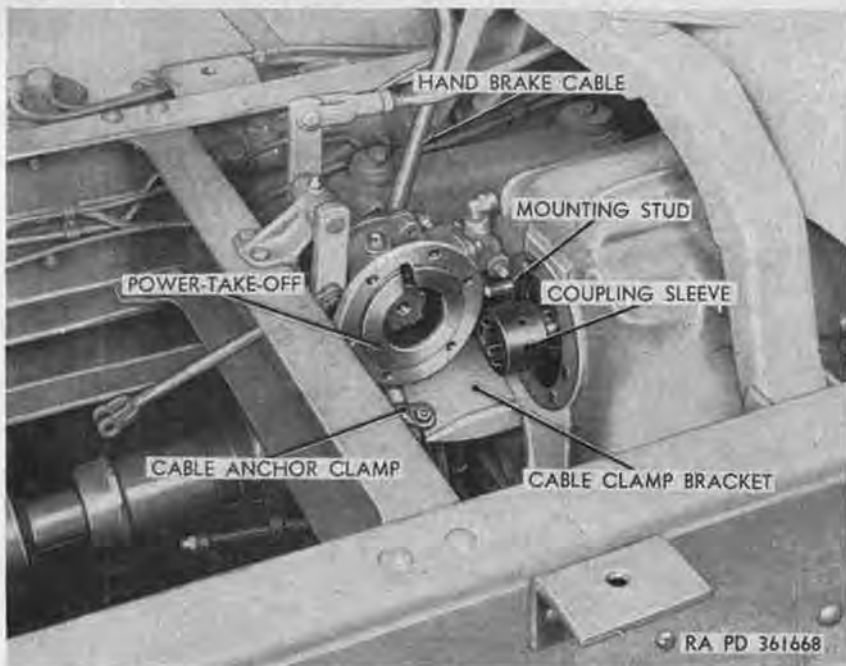

Figure 212. Power-take-off removed from transfer—M62.
- (4) Slide power-take-off from mounting stud (fig. 212), and remove and discard power-take-off mounting gasket. Figure 212 illustrates power-take-off removed with transfer installed in vehicle and hydraulic oil reservoir and stowage box assembly removed.
- (1) Clean gasket surfaces on power-take-off (fig. 212) and transfer, and install new gasket on power-take-off mounting flange.
- (2) Aline splines on power-take-off shaft with splines in shaft coupling sleeve (fig. 212), and slide power-take-off on mounting stud.